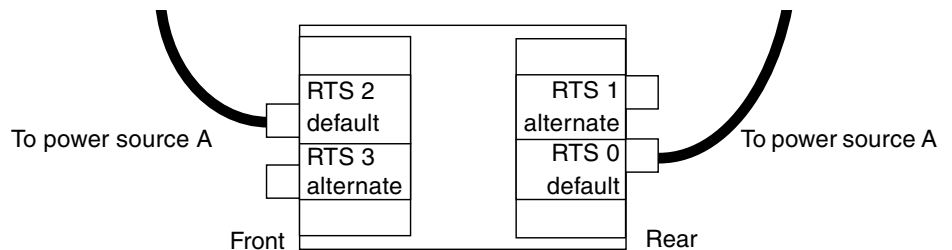

FIGURE 2-9 One AC Power Source
- In configurations with one AC power sources there will be two cables to connect, one on the front (on the left), and one on the rear of the system (on the left) (FIGURE 2-9). Connecting the alternate RTS units to outlets that use the same power source as the default RTS units is not supported and will adversely affect reliability.